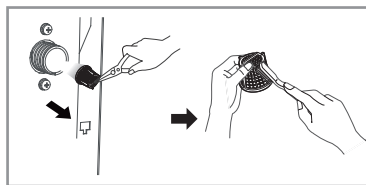

Fig. 21
- Clean the filter using a hard bristle brush under the running water. ( Fig. 21)